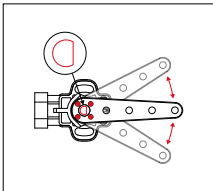
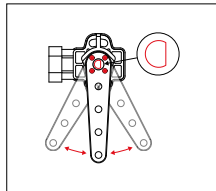
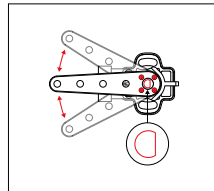

Fig. 20: Position A
Fig. 21: Position B
Fig. 22: Position C
2. The sensor can be mounted in any direction, as long as the flattened side of the sensor shaft points to the opposite side of the connector when the sensor arm is in the middle position. The height sensors are delivered in Position A (Fig. 20). Remove the sensor arm to rotate it to Position B (Fig. 21) or C (Fig. 22). Try to mount the sensor in Position A or B, so that the arm is opposite or rotated 90 degrees from the connector. If this is not possible, ensure that the connection cable cannot come into contact with the sensor arm.